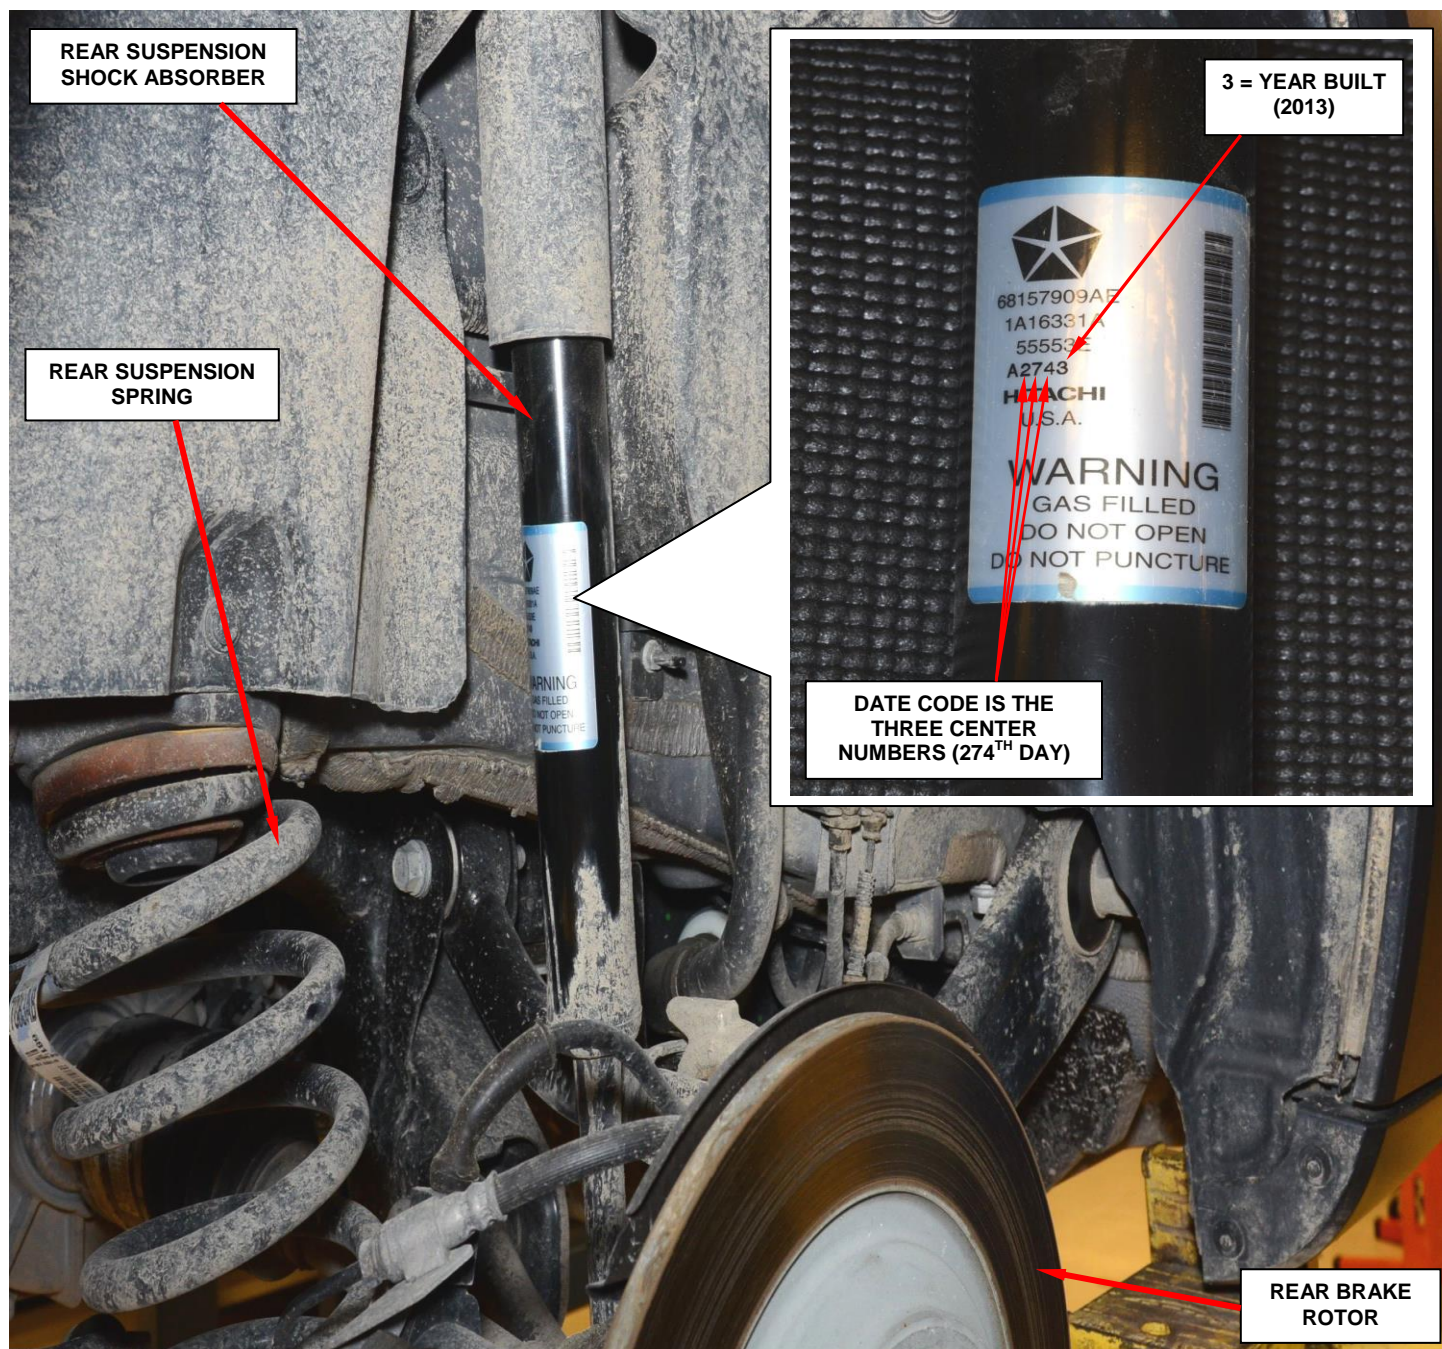

Figure 1 – Shock Absorber Date Code and Label Location (KL / UF Models)
4. Inspect the date code on both rear suspension shock absorbers (Figures 1 and 2):